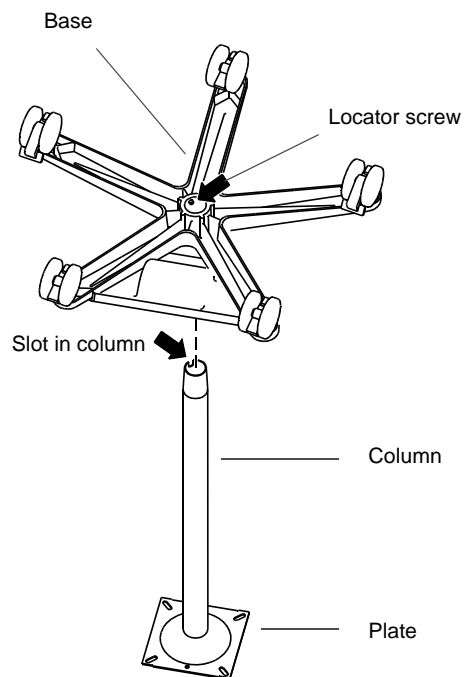

Figure 3. Fitting Column Into the Base
1. Stand the column upright, with the flat plate on the floor (See Figure 3).
2. Invert the base and place it on the column, fitting the locator screw (center of the base) into the slot in the column. Tap sharply on the base with the palm of your hand to ensure it is fitted securely on the column (See Figure 3).